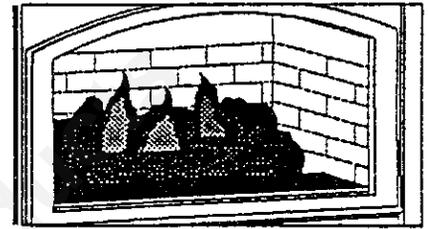

Fig. 11
8. Operate the burner and visually check to make sure the flame pattern appears similar to Figure 11.